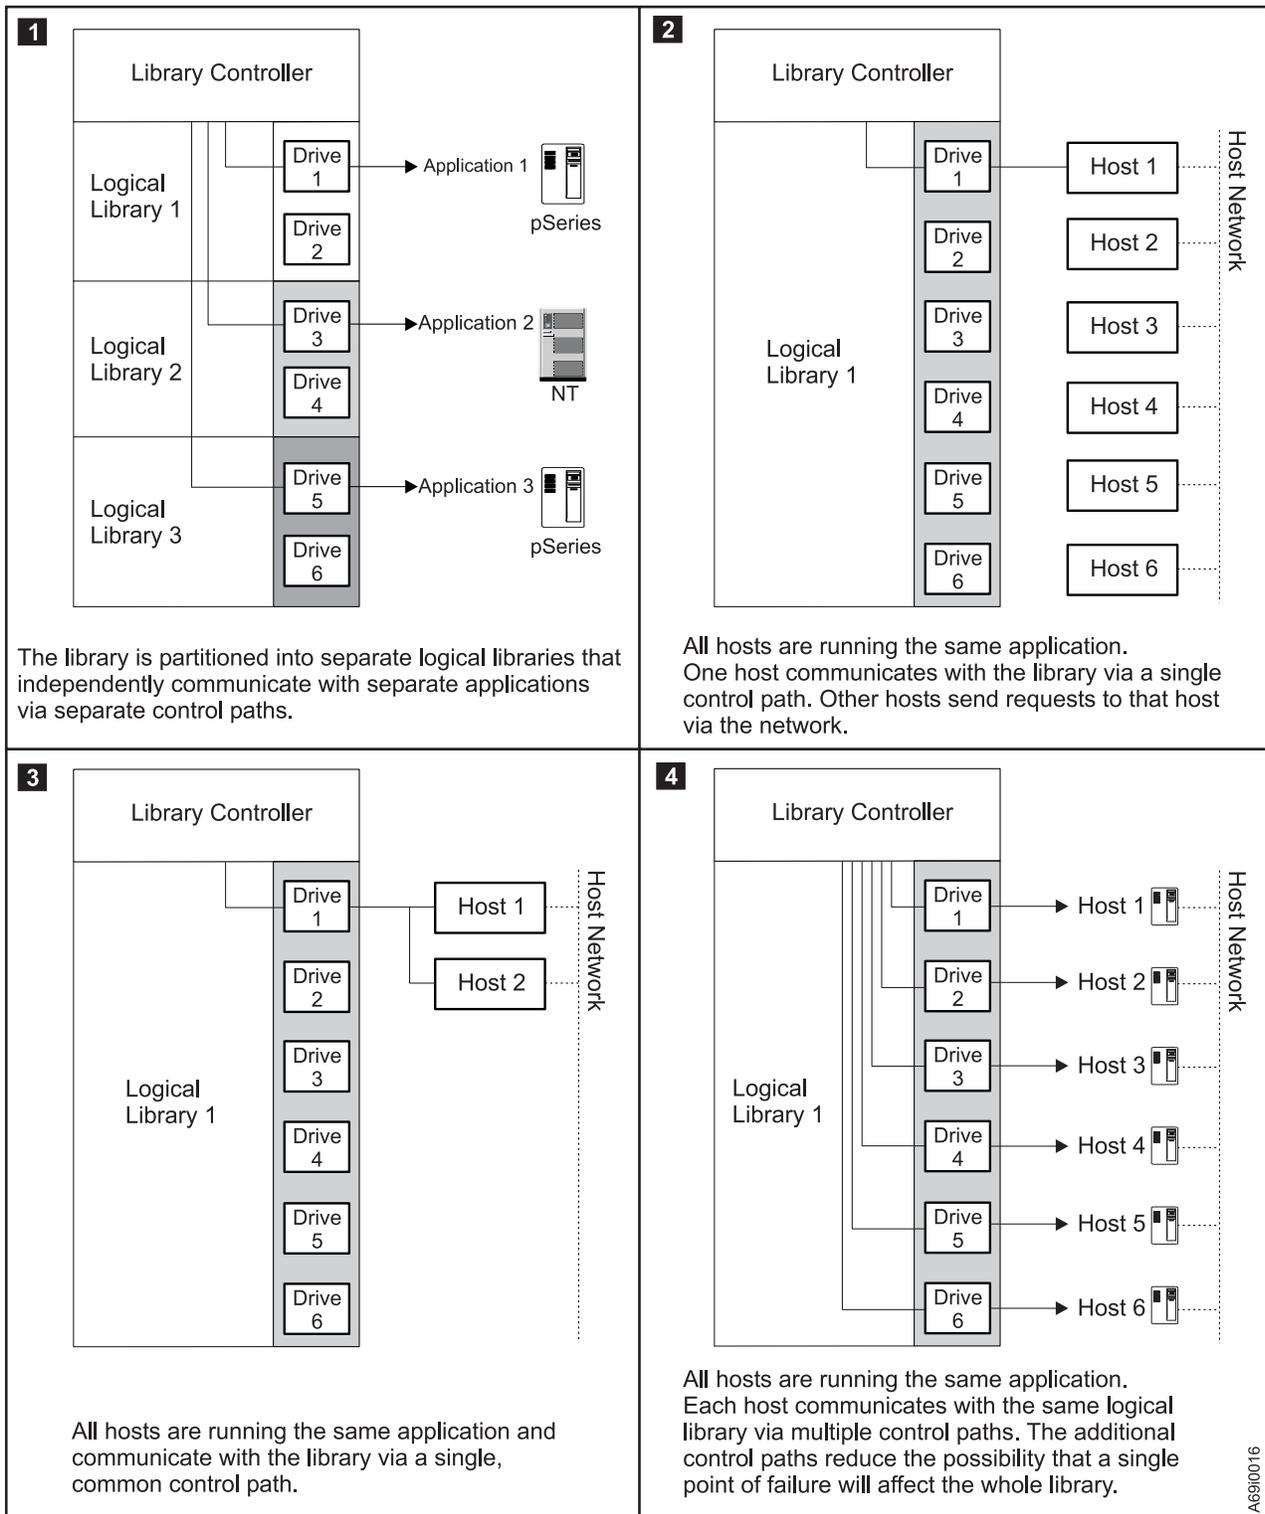

Figure 14. Sample Configurations
- Configure the library so that it is partitioned into separate *logical libraries* that independently communicate with separate applications or hosts via separate control paths. This configuration (see **1** in Figure 14 on page 39) is commonly called the Logical Libraries Configuration and requires no special capabilities from the host system or application. For more information, see “Logical Libraries Configuration” on page 40.
- Configuring one server (host) to be responsible for communicating with the library via a single control path; all other servers (hosts) will send requests to that server (host) via a network (see **2** in Figure 14 on page 39). This configuration is not applicable to the IBM @server iSeries or IBM AS/400 servers and requires special capabilities from the application.
- Configuring all of the hosts to communicate with the library via a single, common control path (see **3** in Figure 14 on page 39). This configuration is not applicable to the IBM@server iSeries or IBM AS/400 servers, and requires special capabilities from the application.
- Configuring a single logical library to communicate with multiple servers (hosts) via multiple control paths. This configuration (see **4** in Figure 14 on page 39) requires that you add Control Paths and is required by IBM @server iSeries or IBM AS/400 servers. For more information, see “Control Paths” on page 41.
The customer's library configuration is not limited to the examples shown in Figure 14 on page 39. Many configurations are possible, and the configuration can be designed according to business needs. The customer can partition the TotalStorage UltraScalable Tape Library 3584 into as many as 32 logical libraries by using one of two methods: